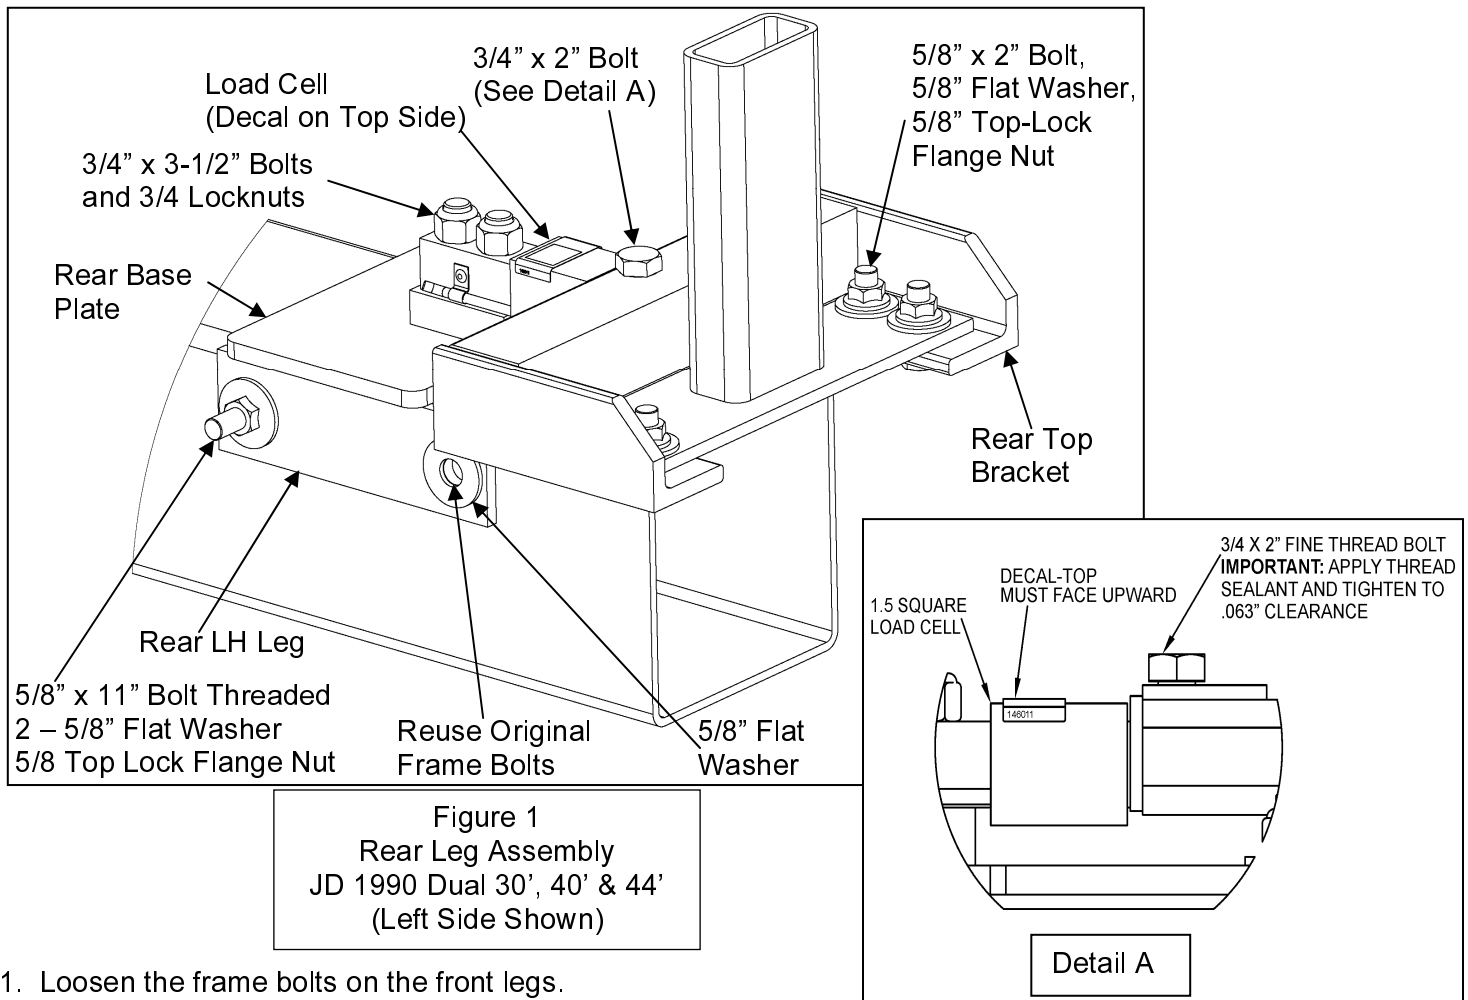

Figure 1
**Use Figure 1 for steps 4 - 7**